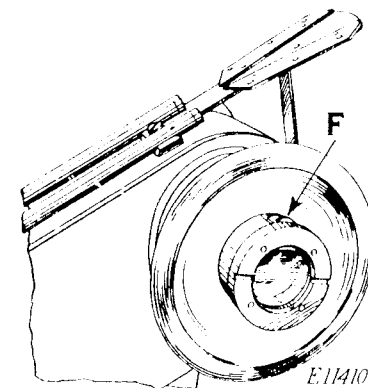

Fig. 4
2. Turn the balance wheel to bring the screw plug (F, Fig. 4) to the top, remove this plug and fill the reservoir practically to the top. THE OIL LEVEL IN THIS RESERVOIR SHOULD NEVER BE ALLOWED TO GO BELOW THE HOLE AT THE CENTER OF THE ARM SHAFT. If the oil is down to the bottom of this hole, add oil before starting. Otherwise run the machine a few minutes before adding oil to this reservoir.